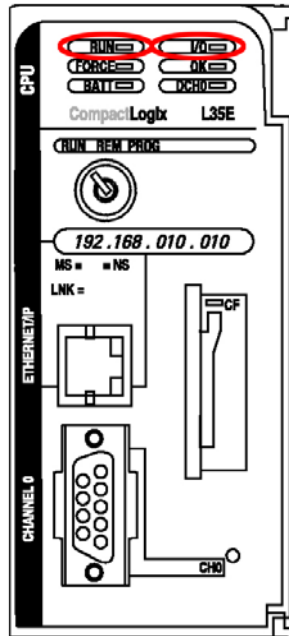

Fig 2
4. Wait for the **Run** LED on the top front of the CPU to turn solid green and for the **I/O** LED to stop blinking (*Fig 2*) for 30 seconds. Since a new CPU requires a firmware upgrade this will take about 2-3 minutes. **Do not turn off power until the upgrade completes.**
6. Wait for the **I/O** LED to stop blinking (*Fig 2*).